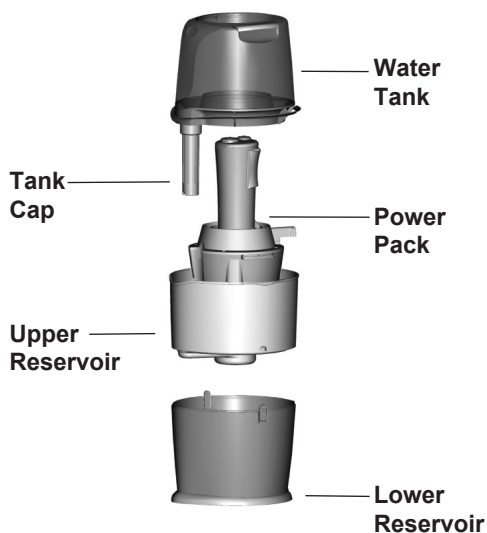

Figure 2
2. Select a location for your humidifier. The location should be flat, hard, water-resistant and at least six (6) inches away from walls and sources of heat.
3. Remove the Lower Reservoir (marked with the number 2) from the Water Tank and Upper Reservoir (marked with the number 1). See Figure 2.